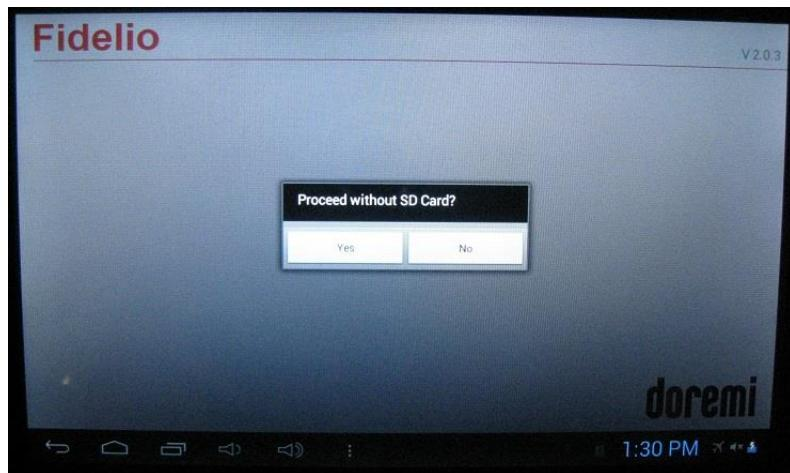

Figure 59: Message Window
- Press "SD" to continue (Figure 59).
- Press “SD” to continue (Figure 59).